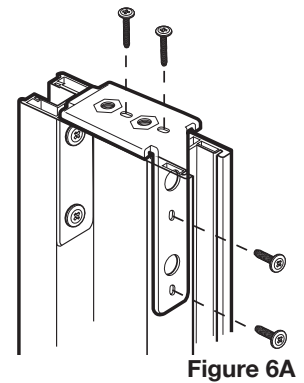

Figure 6A
Place 2 of the 4" screws into the 2 holes in the outside of the Stile channel. Make sure they are fully inserted. Slide a reinforcement clip (D) into the channel and over the screw shafts. See Figure 6A.